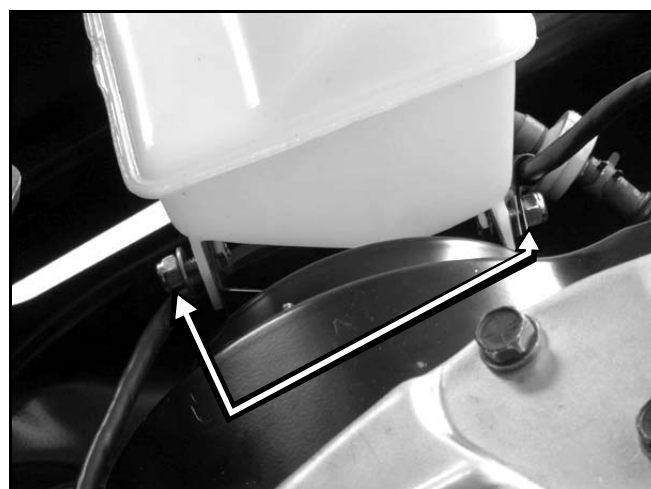
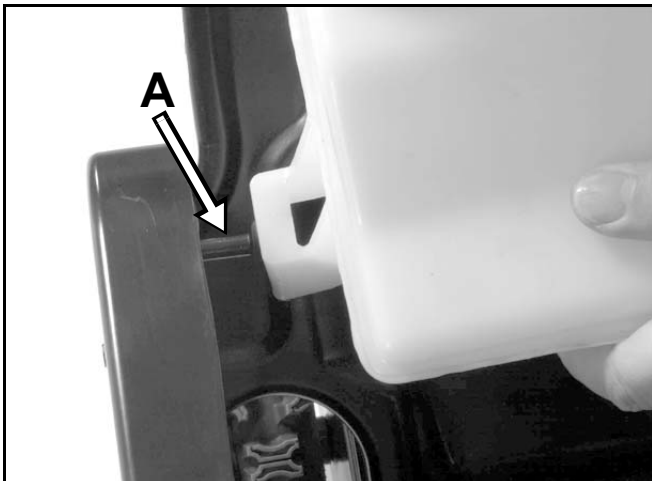

Figure 18 3428-0223
Figure 19
5. To remove the fuel tank, remove the two bolts and locknuts on the left side of the tank (Figure 18). Then slide the tank to the left to disengage it from the support pin on the right side (Figure 19). Lift the tank out of the machine.